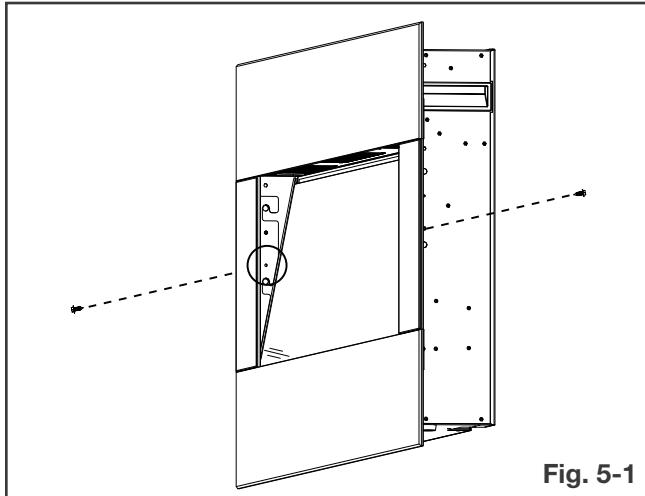

Fig. 5-1
- Remove the two screws securing the front surround place (**Fig. 5-1**).